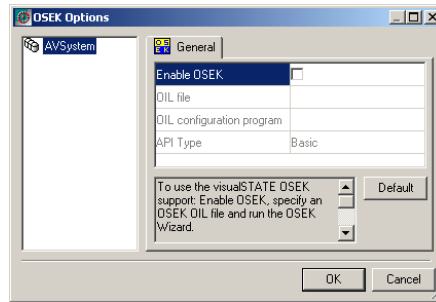

Figure 209: Navigator Settings dialog box, OSEK page
- 2 In the workspace browser, select the appropriate Project, open the pop-up menu and choose Options>OSEK. An OSEK Options dialog box is displayed. See *Figure 209*, page 314.